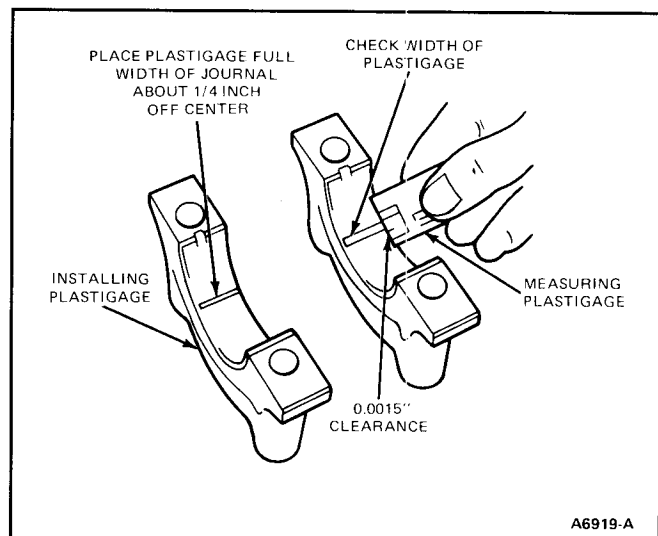

FIG. 81 Installing and Measuring Plastigage
3. Place a piece of Plastigage or its equivalent, on bearing surface across full width of bearing cap and about 6.35mm (1/4-inch) off center (Fig. 81).
5. Remove cap. Using Plastigage scale, check width of Plastigage at widest point to get minimum clearance (Fig. 81). Check at narrowest point to get maximum clearance. Difference between readings is taper of journal.